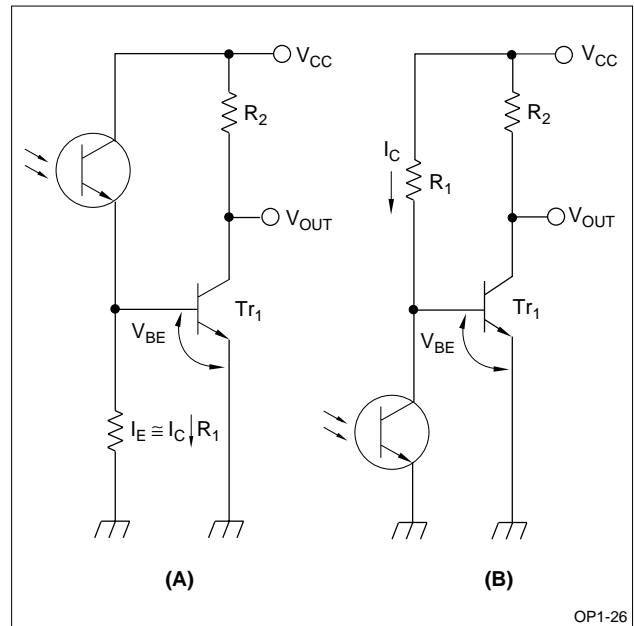

Figure 11. Amplifier Circuit using Transistor
Figure 11 shows the transistor amplifiers used to amplify the collector current of the phototransistor using a transistor (Tr_1). The circuit in Figure 11 (A) increases the output from high to low in response to a light input. The value of resistor R_1 depends on the input light intensity, ambient temperature, response speed, etc., to meet the following conditions: